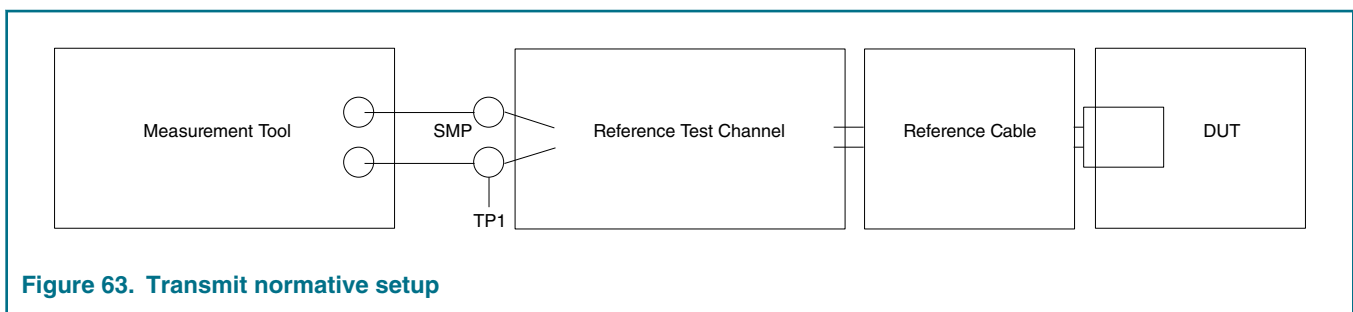

Figure 63. Transmit normative setup
2. See Figure 63, on page 176.